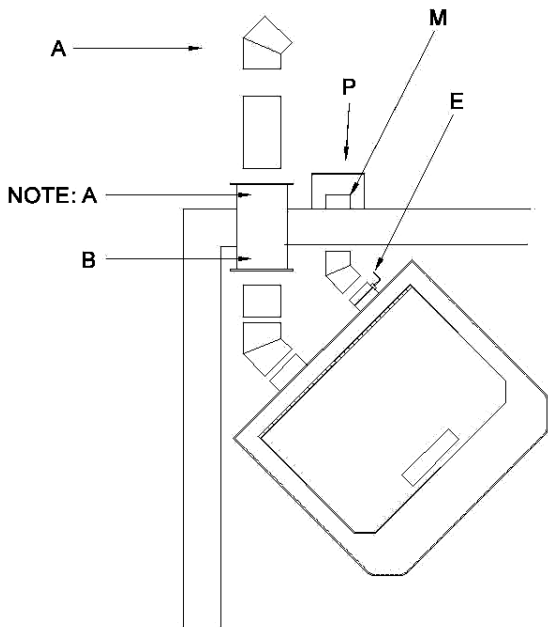

Figure 2
Legend for Figures 2 through 5
1. PL vent may be installed directly through a combustibles wall, ceiling or roof according to PL vent manufacturer's instructions. (See Figures 2 and 3).